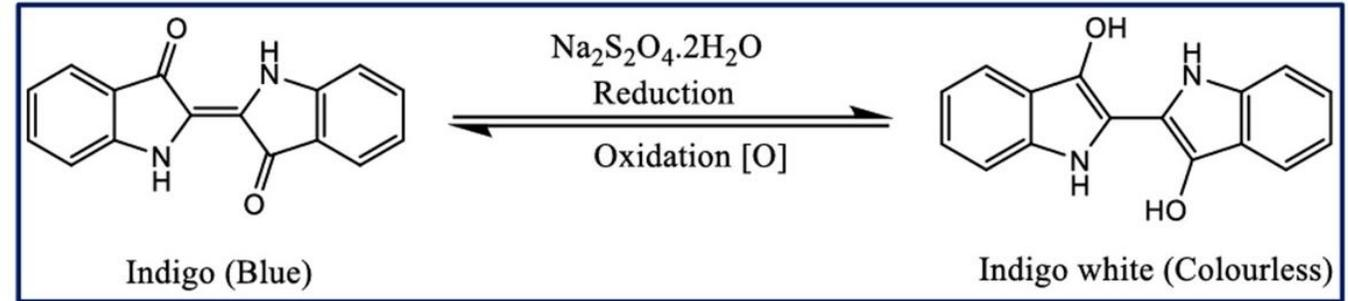

Figure 2: The reduction of Indigo dye
- ❑ One of the very common groups of dye in printing of cellulosic materials is the group of **vat** dyes. These are water-insoluble dyes, which are converted into a soluble form through the reduction process during printing, and after printing, they are returned to an insoluble form during the oxidation process, which is why they provide excellent fastness properties. For the reduction of vat dyes, mostly the Sodium hydrosulphite is used ($\text{Na}_2\text{S}_2\text{O}_4$). **Figure 2** is showing the reduction and oxidation process of Indigo dyes (the most well known vat dye of natural origin. Today only synthetic indigo dyes are used).